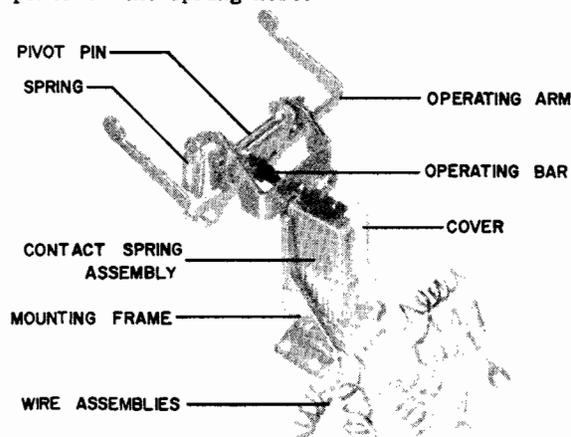

Fig. 2-1 TYPICAL CRADLE SWITCH
2.1 The various parts of a typical cradle switch assembly are identified in Fig. 2-1.